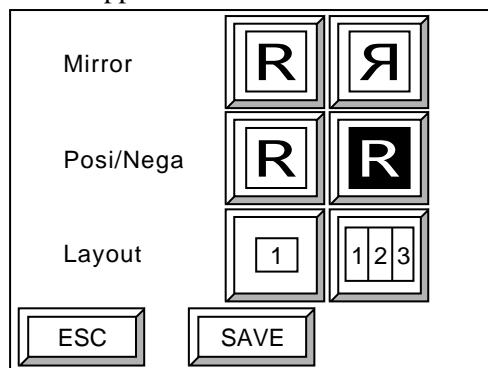

Fig. 5-37 Exposure condition setting screen
1. Select [**Set exposure mode**] in the offline screen and press [**OK**]. The ejection method selection screen appears. (If an online processor is not connected, the exposure condition setting screen (Fig. 5-37) will appear instead of the ejection method selection screen.)